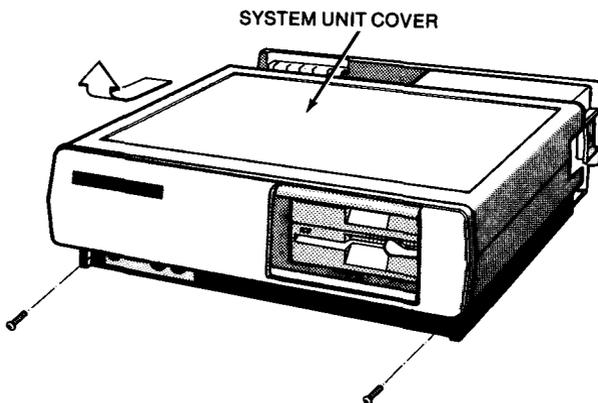

Figure 2.
1. Remove the 2 screws on the front of the computer. Then remove the computer's cover by tilting it away from you and lifting it clear of the slot. See Figure 2.